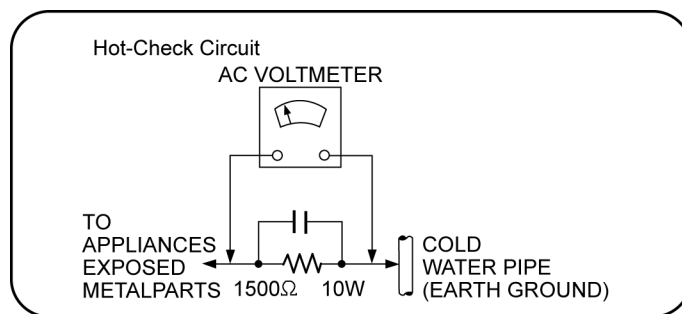

Figure 1
2. Connect a  $1.5\text{k}\Omega$ , 10 watts resistor, in parallel with a  $0.15\mu\text{F}$  capacitors, between each exposed metallic part on the set and a good earth ground such as a water pipe, as shown in Figure 1.